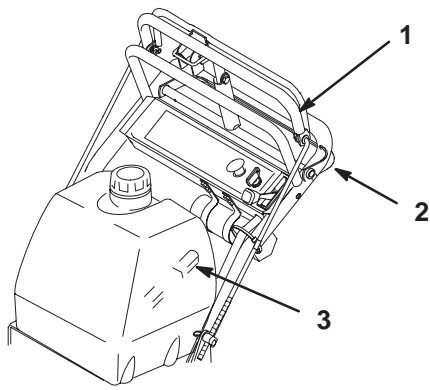

Figure 18
1. To go forward, move the shift lever to a forward gear (Fig. 18).
3. Slowly press on the upper control bar to move forward (Fig. 18).
To go straight, apply equal pressure to both ends of the upper control bar (Fig. 18).
To turn, release pressure on the upper control bar side in the direction you want to turn (Fig. 18).
3. Slowly squeeze the lower control bar and handle together to move rearward (Fig. 18).
7. At the same time engage lower control bar and lift up on handle to drive over the curb (Fig. 18 and 19).
4. At the same time engage lower control bar and lift up on handle (Fig. 18 and 19).